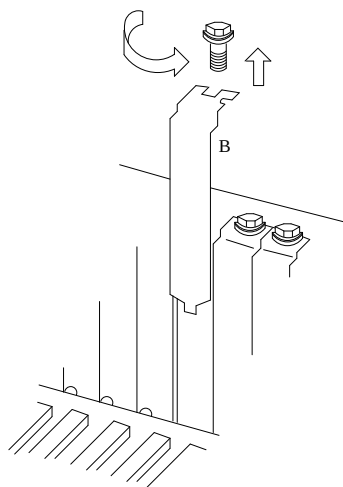

Figure C-3. Removing a Circuit Card Mounting Bracket Screw
2. Remove the screw holding the mounting bracket of the card in place. See Figure C-3 below.
5. Secure the circuit card faceplate into position by replacing the Phillips head retaining screw as shown in Figure C-3 above.
See Figure C-3 for the location of the auxiliary housing. The procedure below assumes that you have shutdown the system, removed power, and removed the front and top covers. For information on how to perform those procedures, refer to Chapter 5, "Getting Inside the Computer" in *Intuity MAP/5 Hardware Installation*, 585-310-146. Perform the following steps to remove the housing:
1. Remove the screws at the top and front as shown in Figure C-3.